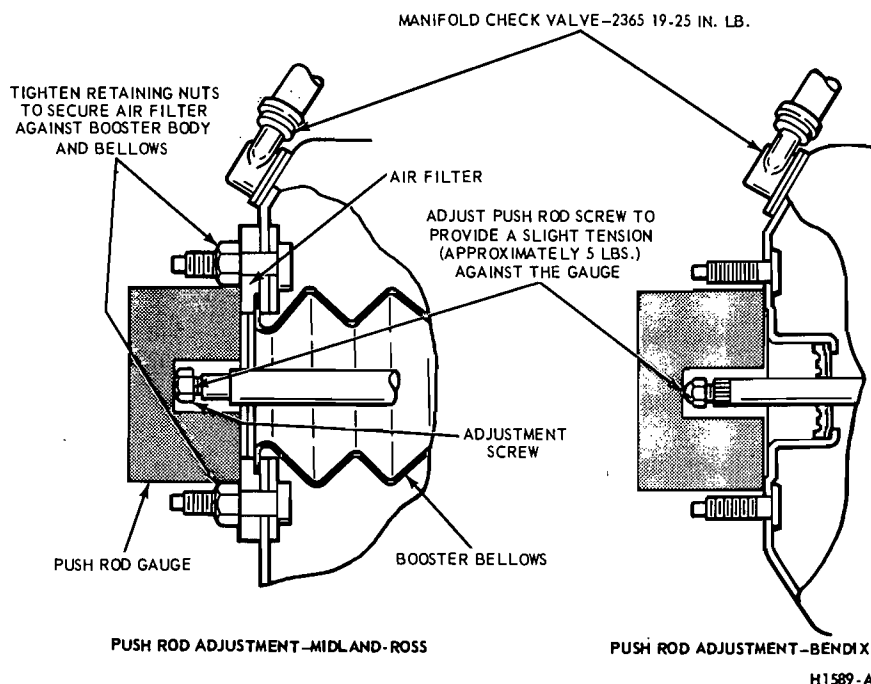

FIG. 4—Brake Booster Push Rod Measurement
2. Reinstall the air filter assembly on the booster if it was removed with the master cylinder (Fig. 4).
2. Adjust the push rod screw to provide a slight tension against the inner edge of the adjustment gauge slot. (Approximately 5 pounds of tension against the push rod is required to assure that the push rod is firmly seated in the booster assembly). See Figure 4.